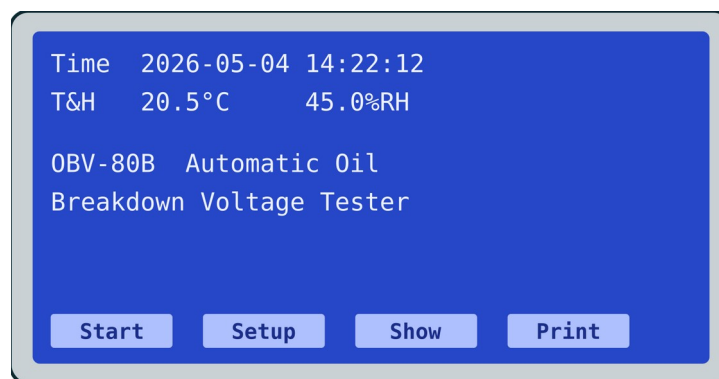

Figure 2 The start screen
6. Switch the power on. The start screen appears (Figure 2), showing the date, time, temperature and relative humidity.